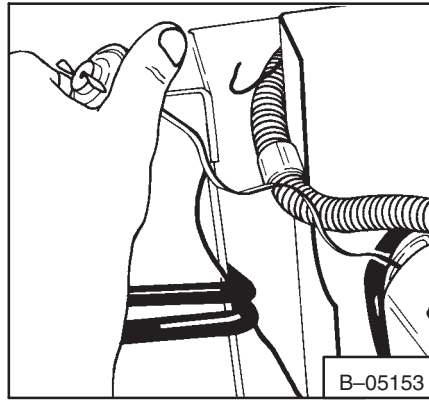
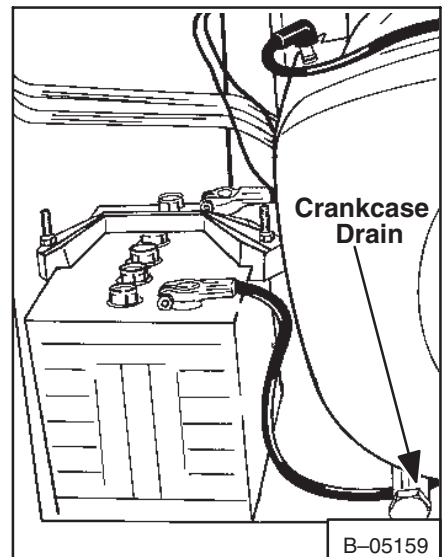
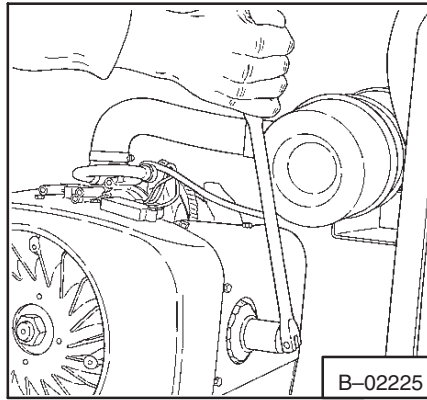
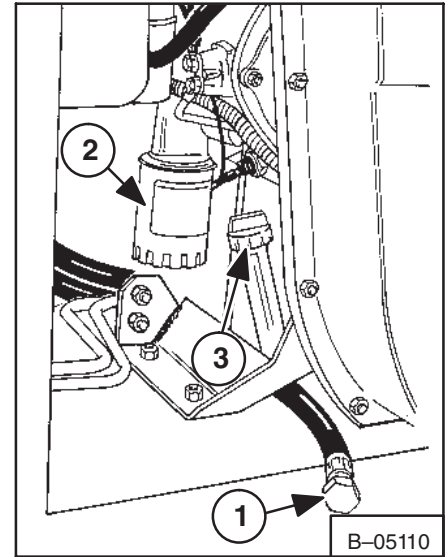

Fig. 1-14 Checking Engine Oil (540)
Fig. 1-17 Oil Drain (540)
Fig. 1-18 Oil Filter (540)
Fig. 1-19 Engine Service (543)
To check the oil level, stop the engine, open the rear door and remove the dipstick (Fig. 1-14 & 1-15).
2. Remove the drain plug (540-Fig. 1-17) (543-Fig. 1-19, Item 1).
3. Remove the oil filter (540—Fig. 1-18) (543—Fig. 1-19, Item 2).
5. Install the drain plug. Remove the oil fill cap (540—Fig. 1-14) (543—Fig. 1-19, Item 3). Add the correct amount of oil to the engine (See the Oil Chart for the correct oil).